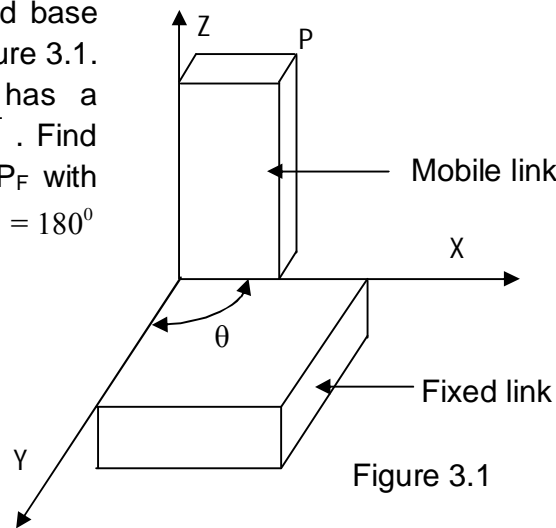

Figure 3.1
- Q3 a)** A single axis robot with a fixed base and a mobile link as shown figure 3.1. Suppose the mobile frame has a point p_m given by $[2 \ 8 \ 8]^T$. Find the co-ordinates of the point P_F with respect to base frame when $\theta_1 = 180^\circ$ and $\theta_2 = 0^\circ$ (8)